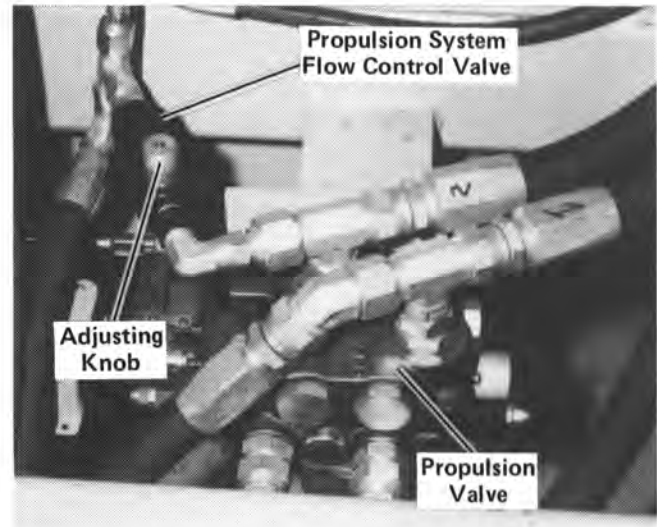

Figure 32
1. Loosen the locking screw and turn the knob inward (clockwise) until it stops. See Figure 32.